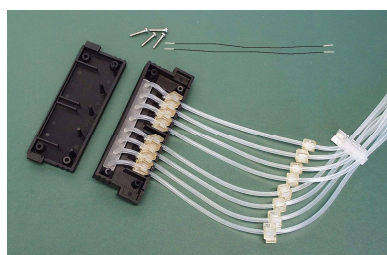

Figure 5–38. New tubing inserted into the lower part of the dispensing cassette
4. Attach the tension limiting wires into their slots (Figure 5–39).